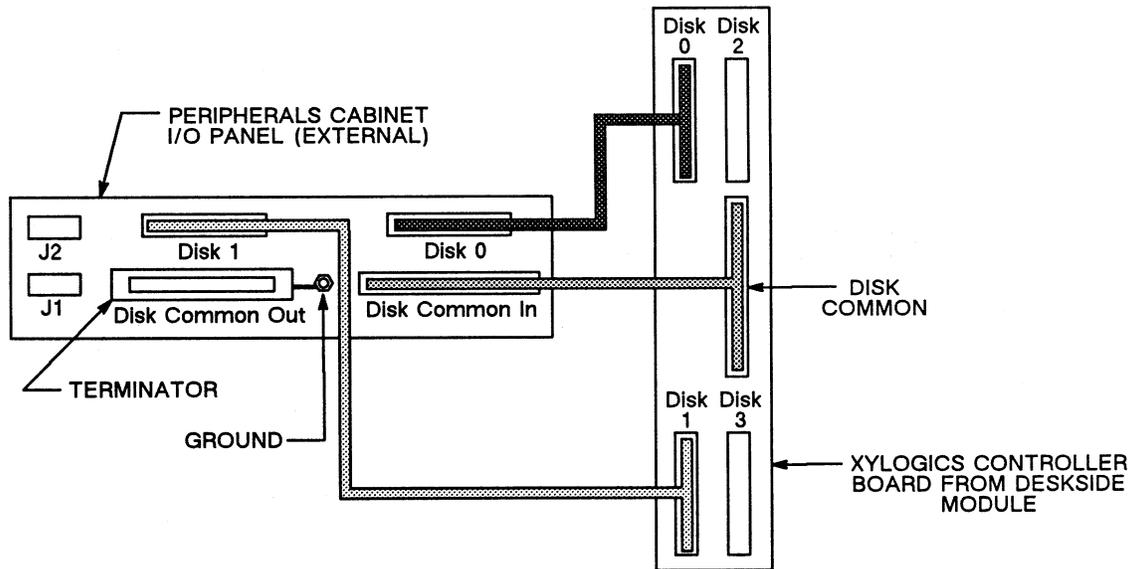

Figure 7-19. 515MB Disk Drive External Cabling, First Configuration
15. Be sure that the 37-pin connectors on the cables leading from the Xylogics controller board (located in the CADDServer deskside module) to DISK 0 and DISK 1 on the exterior of the peripherals cabinet I/O panel are secured. See Figure 7-19.
Figure 7-19 shows external cabling connections from the peripherals cabinet I/O panel to the Xylogics controller board when you install a second 515MB disk drive (CDC).